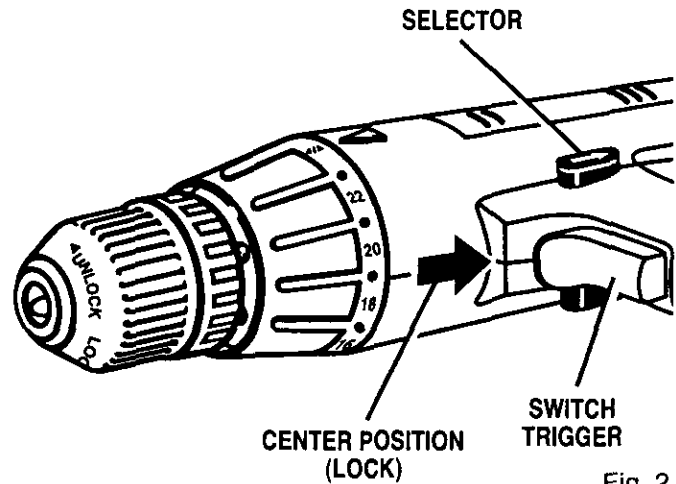

Fig. 2
*See Figure 2.*
- Lock switch trigger on your drill by placing the direction of rotation selector in center position. See Figure 2.
- Lock switch trigger or your drill by placing the direction of rotation selector in center position. See Figure 2.